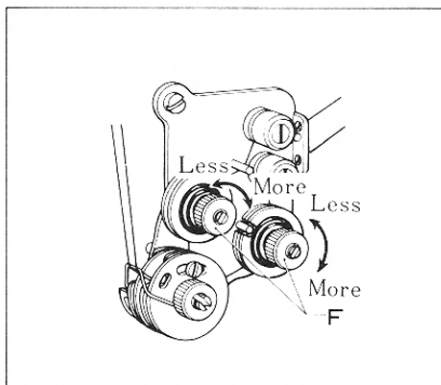

Figure 8
7. Thread Tension (Figures 8, 9 and 10)